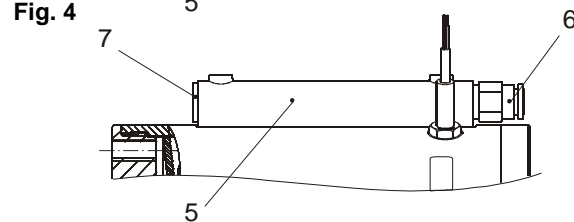

Fig. 5
3. Tighten the plug-in fitting (6) and the screw plug (7) to tightening torque (see section 5.2 Technical Data) (Fig. 5).